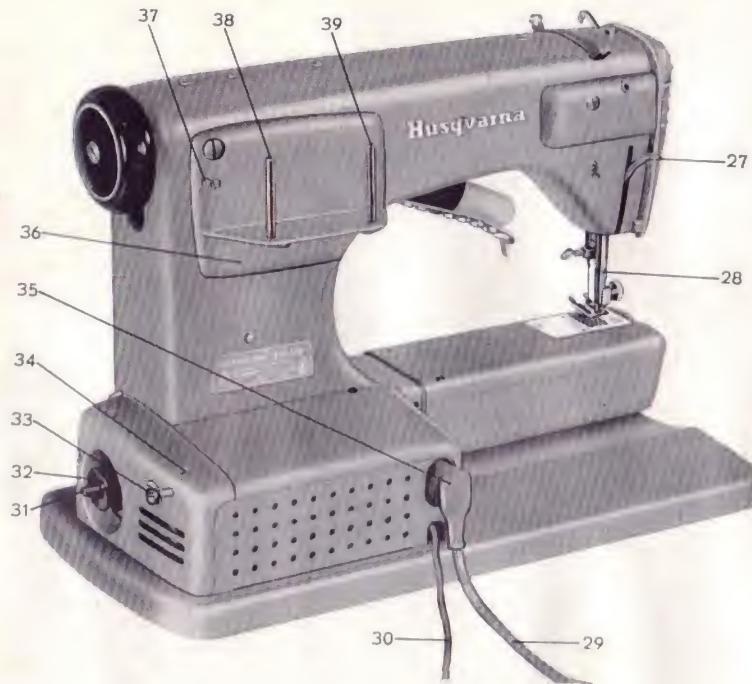

Fig. 2.
If you find the machine is winding unevenly as in (I), loosen the screw (34, Fig. 2) and move the tension device slightly inwards toward the machine. Tighten the screw and test to see if the winding is now even. If the machine winds unevenly in the other direction, as in (II), move the tension device outwards, to the right. A correctly wound bobbin should look like (III) (somewhat higher in the middle).